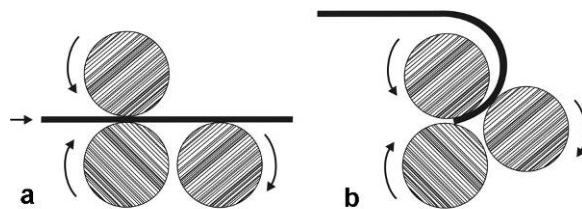

Figure 15
3. Operate the lever; when the material reaches the point where the radius is to begin (a, Figure 15), stop the machine and raise the idle roll an equal amount on each end to achieve the desired bend.
4. Re-start the rolls and continue until the bend is completed (b, Figure 15). Support the workpiece as it exits the machine.